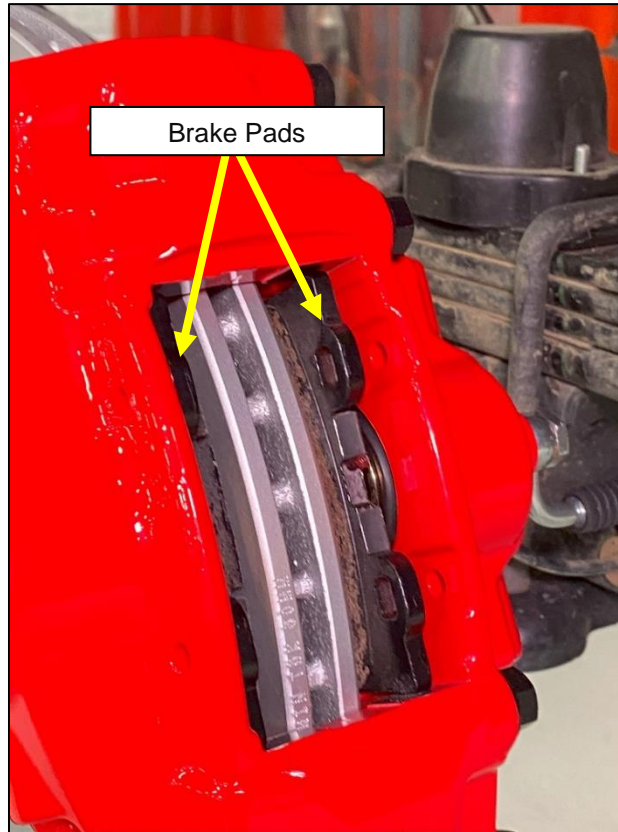

Figure 17
22. Insert (1) one Brake Pad into each side of the new Z1 Caliper. Make sure the Brake Pad surface faces the Brake Rotor. *Figure 17.*